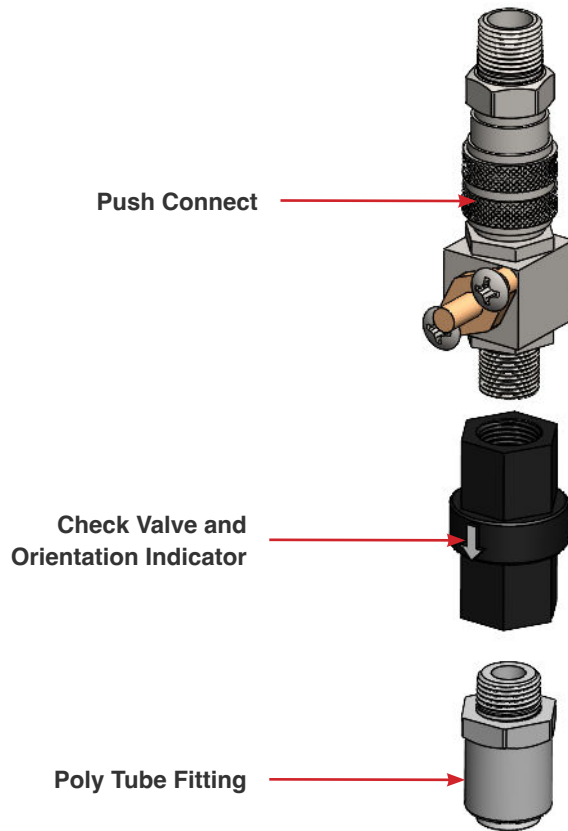

Fig. 7.1.3 - 1 - Check valve replacement
3. Unthread the check valve from the injector (Fig. 7.1.3 - 1).
6. Confirm the orientation of the arrow on the check valve (Fig. 7.1.3 - 1).